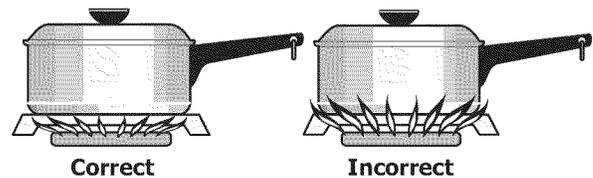

Figure 6: Gas flame adjustment
3. Release the knob and rotate to the **LITE** position (Figure 6). Note: All four electronic surface ignitors will spark at the same time. However, only the burner you are turning on will ignite.